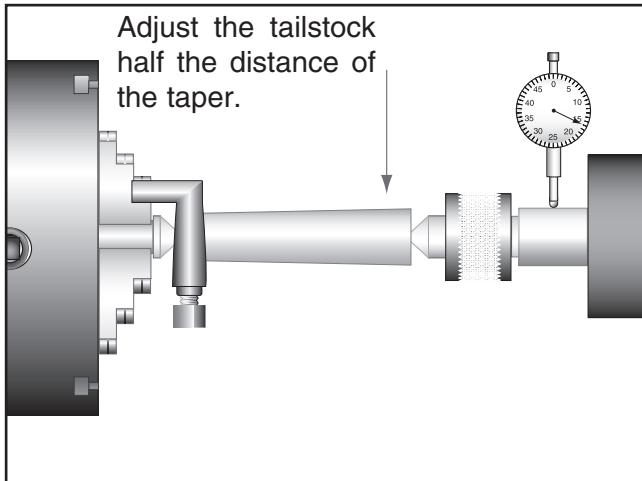
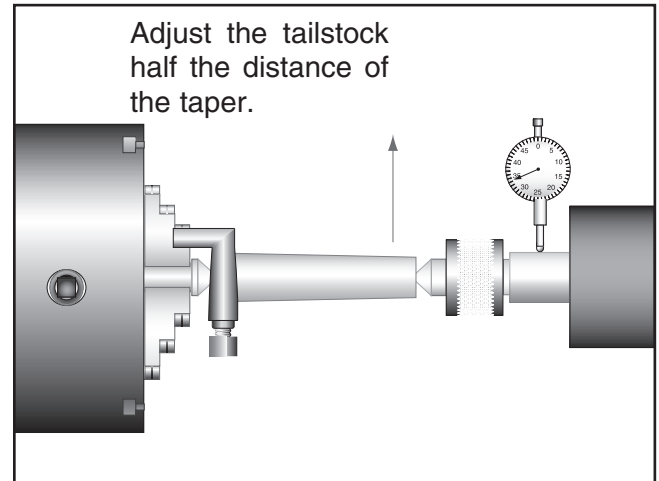

Figure 40. Adjusting for headstock end taper.
Figure 41. Adjusting for tailstock end taper.
6. Measure the workpiece with a micrometer. If the stock is fat at the tailstock end, the tailstock needs to be moved toward the operator half the amount of the taper (**Figure 40**). If the stock is thinner at the tailstock end, the tailstock needs to be moved away from the operator by at least half the amount of the taper (**Figure 41**).